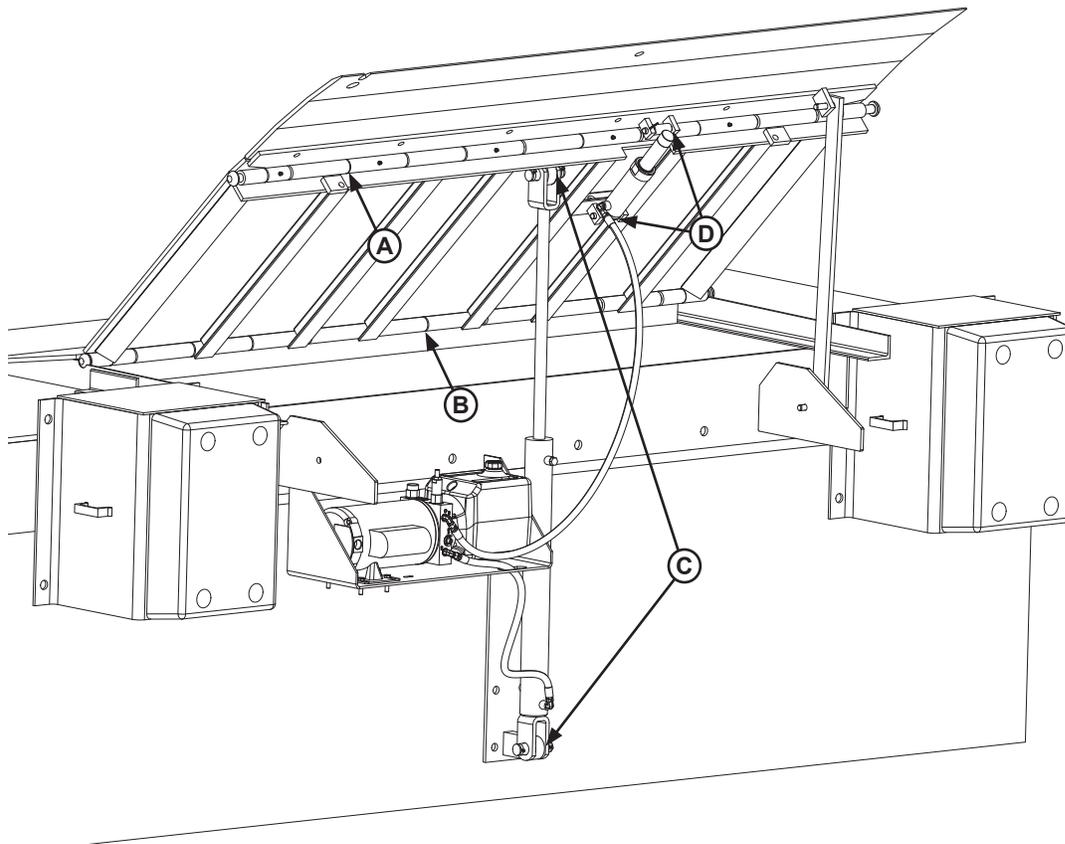

Figure 11
- Lubricate the following areas with light weight machine oil (see Figure 11):
- (A) — Lip hinge area unless equipped with grease fittings (apply oil to the top of the entire length of lip hinge when platform is at the full below-dock position and lip is folded)
- (B) — Platform rear hinge area (apply oil to top of all platform hinges when platform is at the full below-dock position)
- (C) — Hoist cylinder pins
- (D) — Lip cylinder pins